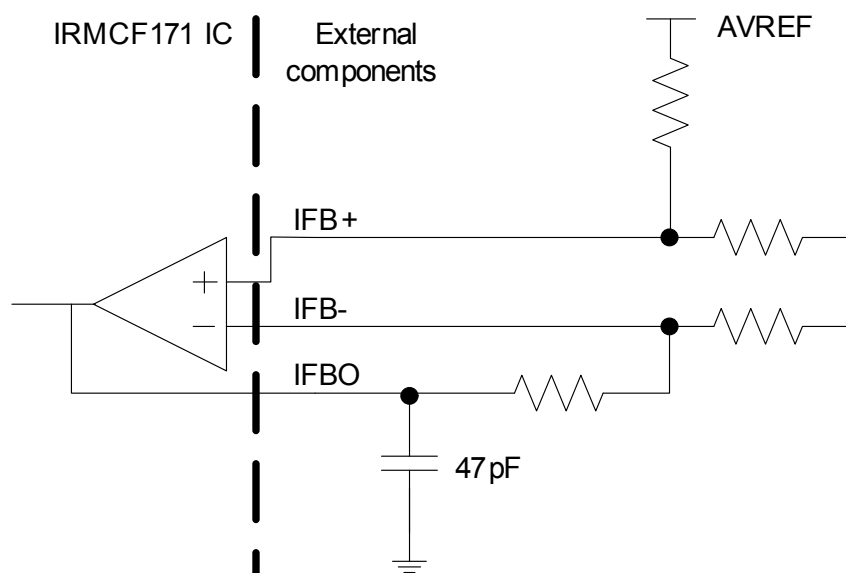

**Figure 8 Op amp output capacitor**
(1) Data guaranteed by design.
(2) To guarantee stability of the operational amplifier, it is recommended to load the output pin by a capacitor of 47pF, see Figure 8. Here only the single shunt current amplifier is shown but all op amp outputs should be loaded with this capacitor value.